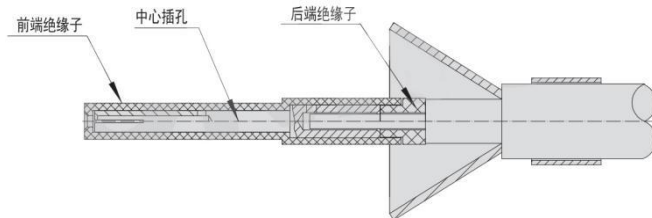

Figure 1.5
⑤ According to Figure 1.5, then install the front insulator on the center socket, and the front insulator tail is close to the steps of the rear insulator.